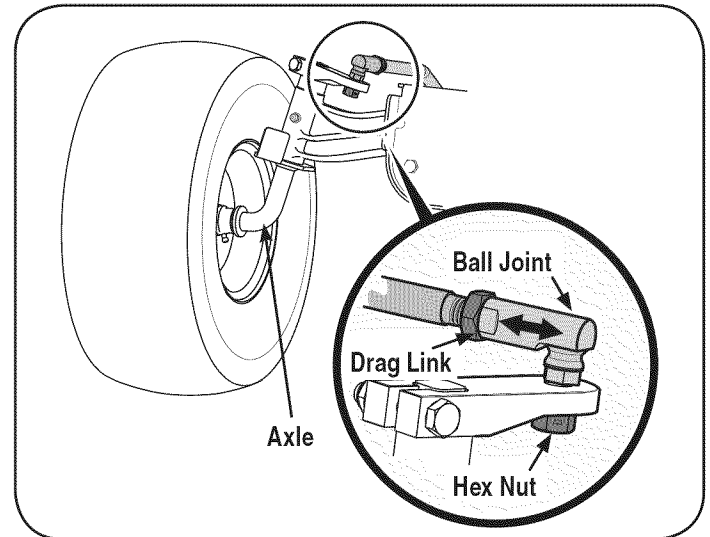

Figure 24
1. Remove the hex nut below the ball joint. See Figure 24.